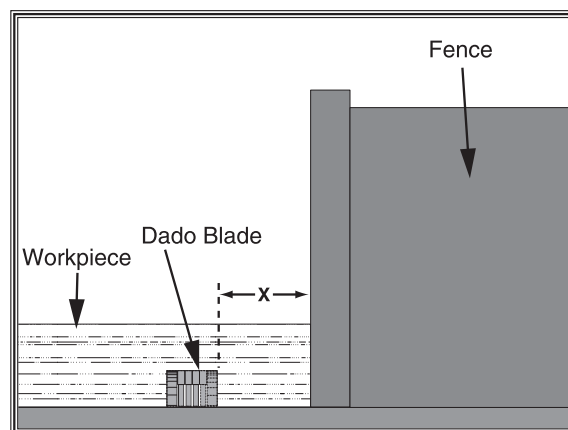

Figure 26. Stacked or wobble dado cut.
5. Adjust the distance between the fence and the inside edge of the blade, as shown in **Figure 26**, to dado the length of a workpiece.